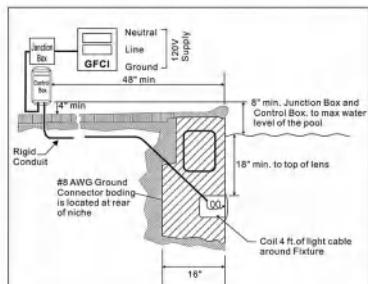

Figure 1
2. The junction box (or, for 12 volt models, the low voltage transformer) must be located at least eight(8) inches above water level, at least four (4) inches above ground level, and at least four (4) feet from the edge of the pool. See Figure 1.
3. The light fixture and all metal items within five(5) feet of the pool must be properly electrically bonded to a reliable point of grounding.
4. The wet niche must be properly installed so that the top edge of the underwater light's lens is at least 18 inches below the surface of the water in the pool. See Figure 1.
5. The wet niche must be properly electrically bonded and grounded via the No. 8 AWG ground connector located at the rear of the niche. See Figure 1.
1. Drill cord through conduit to junction box, leaving at least four (4) feet of cord at the light fixture to coil into the base of the light niche, see Figure 1. The four (4) feet of cord allows the light to be serviced after the pool is filled with water.
2. Cut the cord at the junction box, leaving at least six (6) inches of cord to make connections.
4. The wet niche must be properly installed so that the top edge of the underwater light's lens is at least 18 inches below the surface of the water in the pool. See Figure 1. The wet niche must be properly electrically bonded and grounded via the No. 8 AWG ground connector located at the rear of the niche. See Figure 1.
4. Feed cord through conduit to junction box, leaving at least four (4) feet of cord at the light fixture to coil into the base of the light niche, see Figure 1. The four (4) feet of cord allows the light to be serviced after the pool is filled with water.
5. Cut the cord at the junction box, leaving at least six (6) inches of cord to make connections.